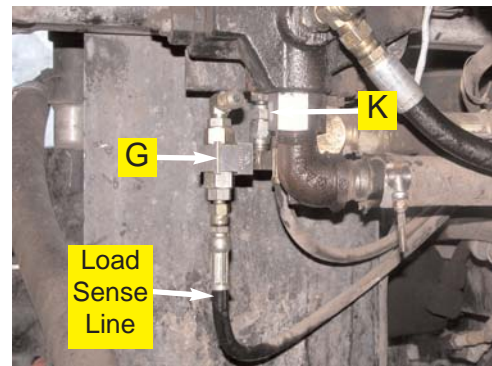

Figure 3d. Connected load sense line and Load Sense Shuttle.
- e. Reconnect the steering load sense line to the straight adapter (J) on the Load Sense Shuttle (G). (Figure 3d.)